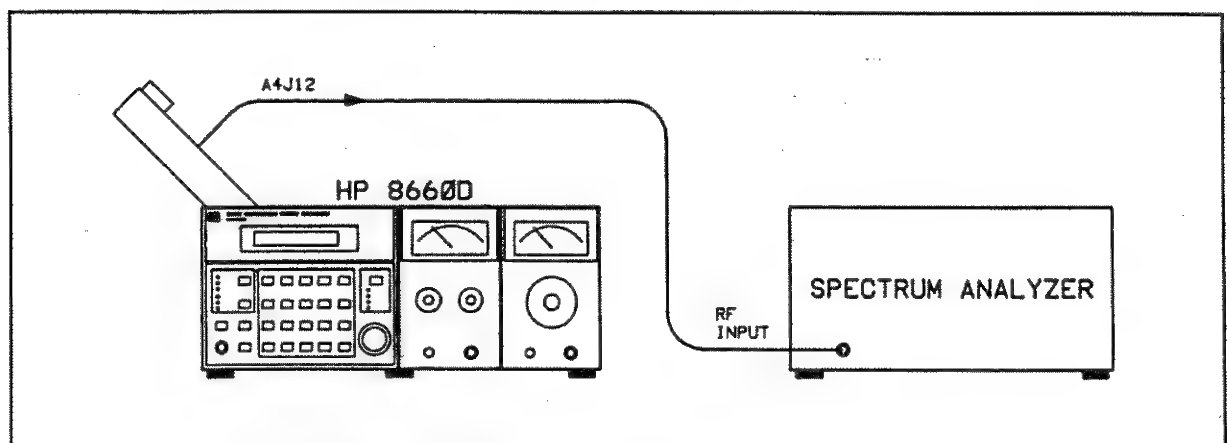

Figure 5-17. Output Frequency and Amplitude Check Test Setup
7. Output Frequency and Amplitude Check (see Figure 5-17).